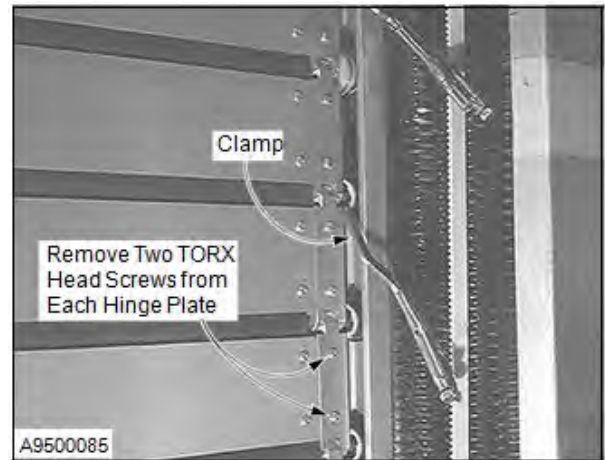

Figure 54
4. Once the door is positioned, set the brake and clamp both sides of the door to the vertical track. Position clamps along both edges of the door above and below the panel to be removed to prevent the remaining panels from moving. (See Figure 54 & 55.)
5. At the ends of the door panel to be replaced, remove the two TORX® head screws securing each hinge plate to the panel. (See Figure 54.)